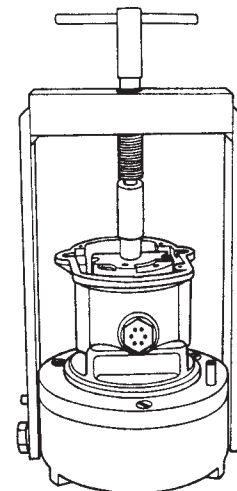

Figure 7.2.1
- E. Place T-151 cam and rotor set, or T-102 as applicable, onto the end of the rotor shaft and turn T-handle until the shaft bottoms in magneto frame. (See Figure 7.2.1.)